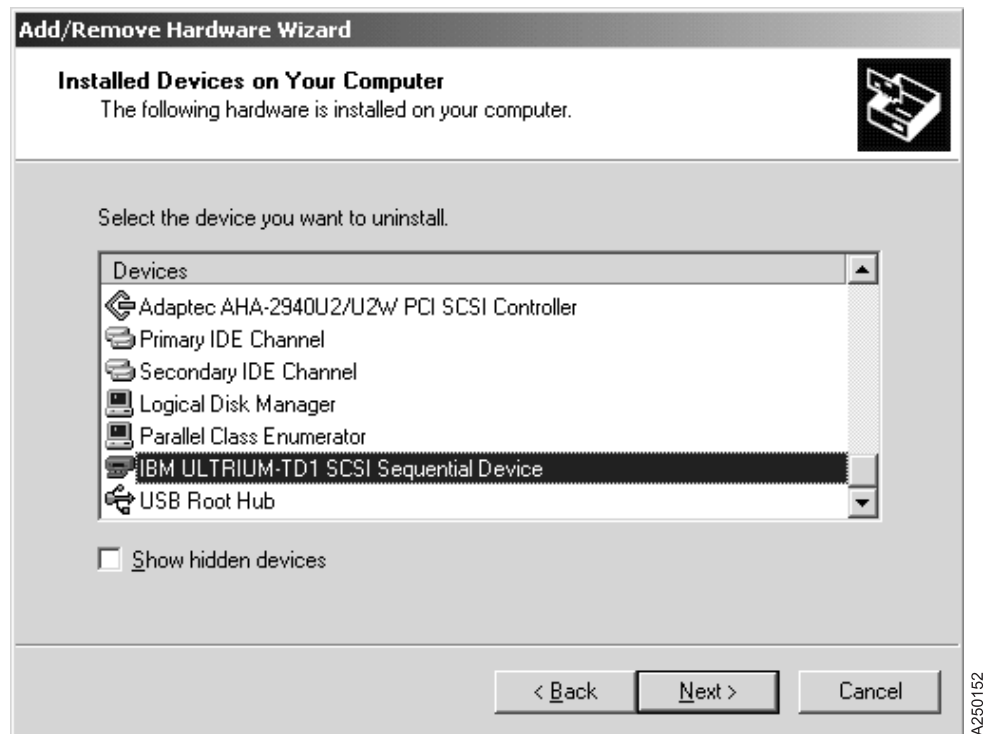

Figure 43. Add/Remove Menu
5. A window display list of installed devices opens. Select the correct device, then click Next >. See Figure 43.